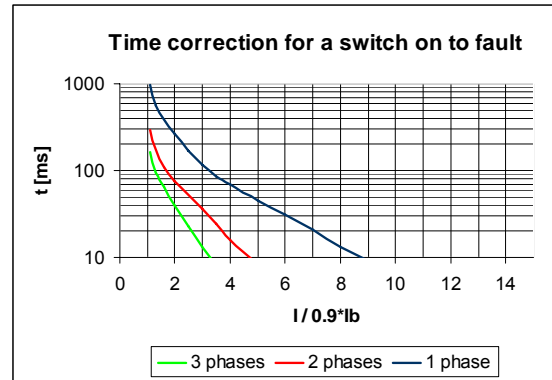

Figure 1. Time correction for switch on to fault
2) The minimum tripping time when switched on to a fault is subject to the fault current level (see Figure 1). Figure 1 diagram shows the time correction under worst conditions such as inception of fault from 0 A current, ageing, temperature.
If the pre-fault current is below $0.2 I_n$ (I_{en}) in all phases and no V_x on terminals 11 -12 additional time correction should be taken into account (refer to Figure 1)